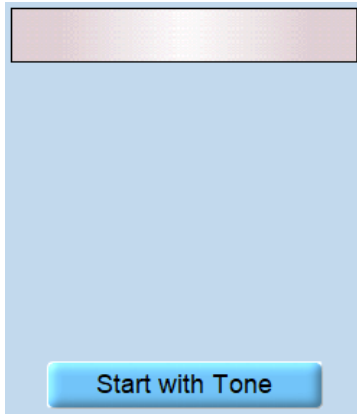

Figure 114
**Start with Tone:** Pressing the **Start with Tone** button opens a message box that allows for the selection of the test the program shall start with (Figure 114 and Figure 115).